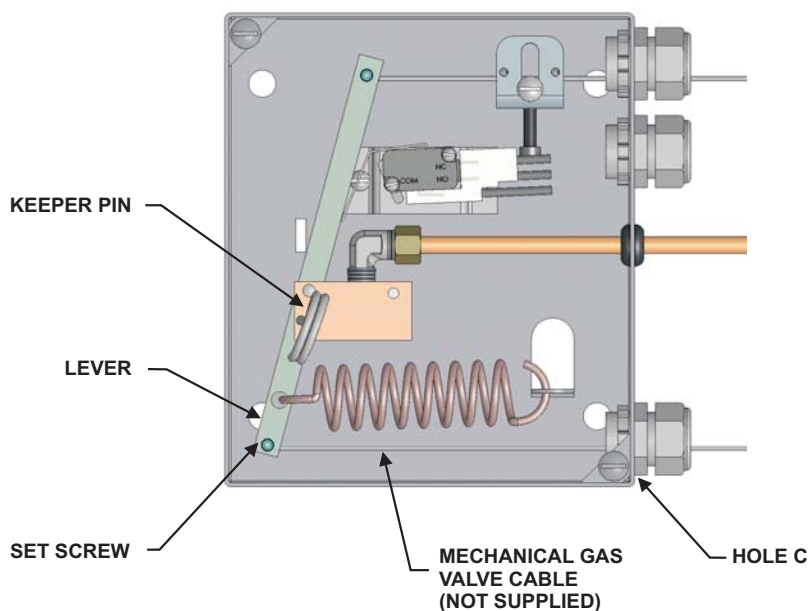

Figure 5-21. KRS-50 Control Box in "SET" Position
- Install the Keeper Pin (P/N 60-9197108-000). The KRS-50 Control Box is now held in the "SET" position (see Figure 5-21).